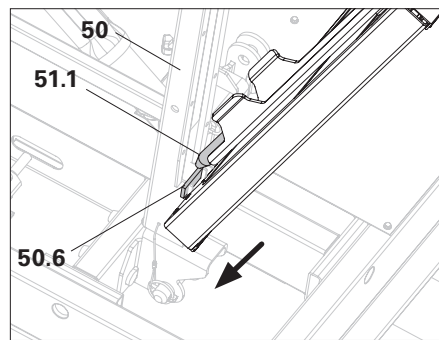

Fig. B3.04
1. Position both guide bolts (51.1) of the Scaffold Deck MXK (51) behind the plates (50.6) of the Scaffold Brackets MXK (50). (Fig. B3.04 + B3.04a)